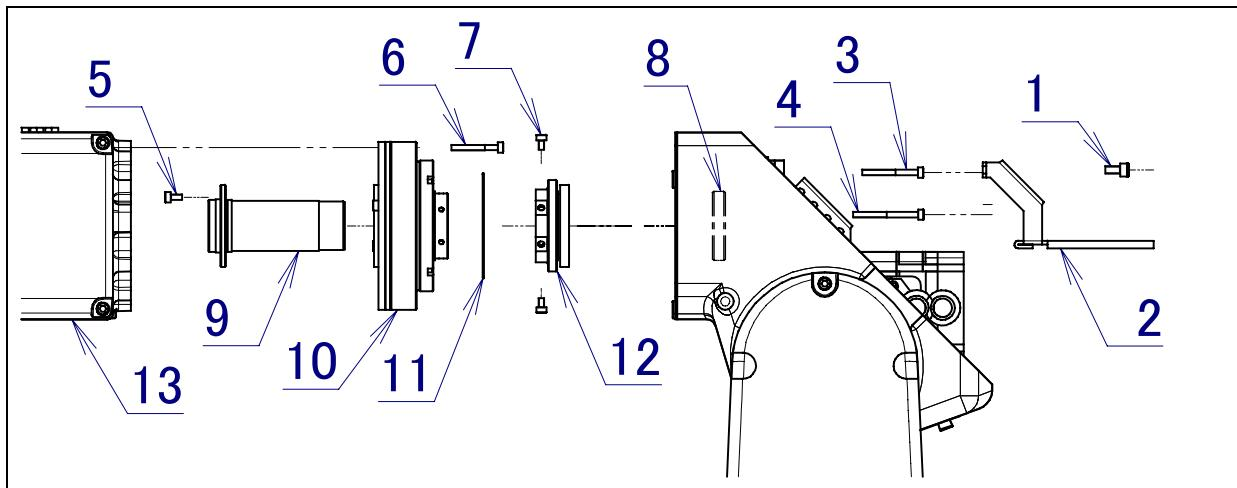

Fig. 4.9(a) Replacing J4-axis reducer
- 3 Remove J3 cover and cut the nylon band, which connect cable to clamp (2) referring to section 4.8.
- 5 Remove bolt (1) and clamp (2).
- 6 Remove bolt (3), (4) and J3 arm (13). Pay attention not to damage oil seal. Note that there is a possibility that grease goes out.
- 7 Wipe the grease of the gear (12) off. In this time, pay attention not to damage the tooth side.
- 8 Remove bolt/plated bolt (6) and reducer (10).
- 9 Remove seal bolt (5) and pipe (9).
- 10 Remove seal bolt (7) and gear (12).
- When installing reducer, spread grease on teeth of Wave generator, and install O-ring (11) without forgetting. (In case of J4-axis reducer, wave generator is assembled in reducer when it is shipped.) Also, pay attention to the phase of bolts referring to Fig.4.9(c).
- When installing reducer to J3 casing apply bolt (3) after applying all bolt (4).
- When installing J3 arm, confirm the thing that the oil seal (8) is at the position, and note that the lip cannot be turned over.
- When severe dust/liquid protection specification of LR Mate 200iC, LR Mate 200iC/5L or LR Mate 200iC/5C,5LC,5WP is specified, spread sealant to the each part referring to Fig.4.9 (b).